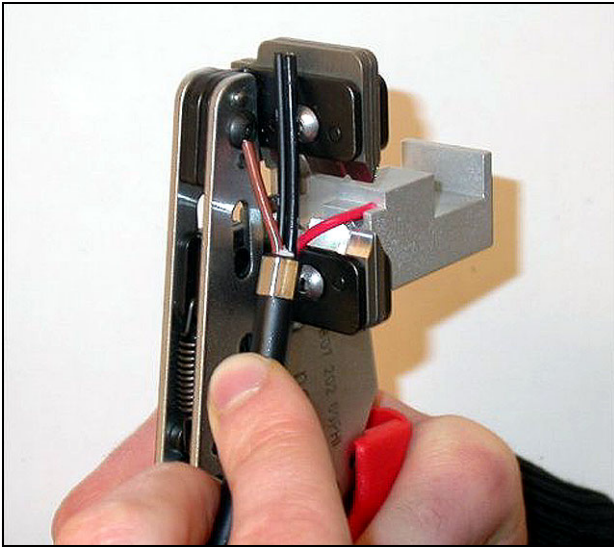

figure 22.11: Stripping a copper wire
- 9 Strip the red and brown insulations from the copper wires by pushing them to the mechanical stop of the stripping tool (tool 5, see figure 22.11).